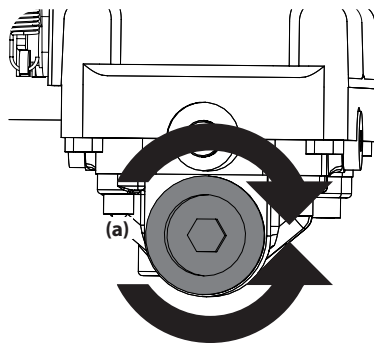

Figure 4-8
2. Place a suitable container under the drain plug (a) on the transmission. Remove the drain plug (a) and allow the transmission oil to drain. See Figure 4-8.